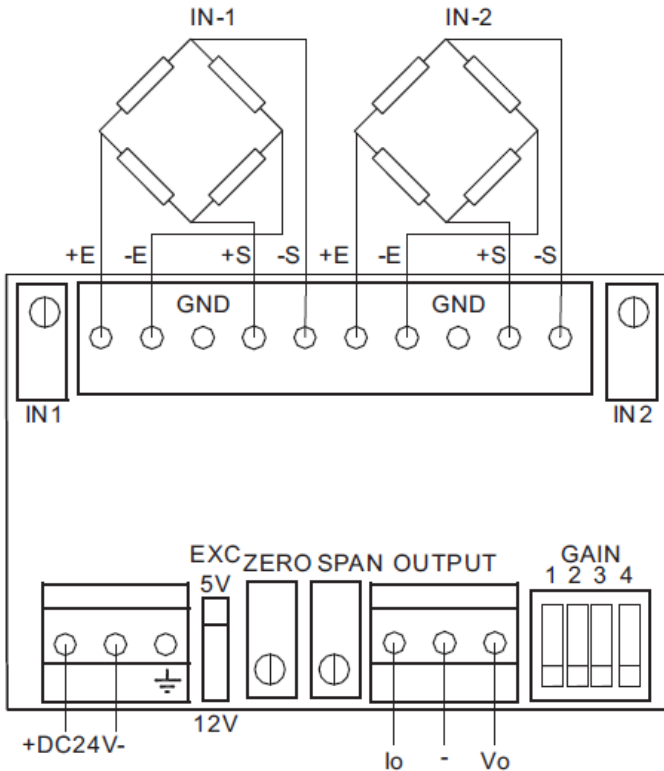

Figure 1.Connection Diagram
As shown in the Figure 1 (Connection Diagram), the left terminal (I_o), outputs positive current and the right terminal (V_o), outputs positive voltage. The middle terminal (-) is the common connection for negative current or negative voltage.
Refer on Figure 1, you may slide the switch for (EXC) from either 5V or 12V. The A2P-D2 amplifier can drive a load cells of either 5V or 12V excitation.
The A2P-D2 is applicable for load cells with different sensitivity. It supports 4 ranges of Gain. The user can select suitable gain for different load cell sensitivity, excitation voltage and output signal by setting the 4-bit DIP switch, by adjusting the Zero and Span potentiometer and by configuring the slide switch (EXC), respectively (refer on Figure 1).
2. If Current Signal Output is required, set the output current to 4.00mA by adjusting the ZERO potentiometer (refer to Figure 1).
3. If Voltage Signal Output is required, set the output voltage to 0.00V by adjusting the ZERO potentiometer (refer to Figure 1).
2. If Current Signal Output is required, set the output current to 20.00mA (for 100% of max. capacity load) by adjusting the SPAN potentiometer (refer to Figure 1)
3. If Voltage Signal Output is required, set the output voltage to 10.00V (-10.00V) for 100% of max. capacity load or 5.00V (-5.00V) by adjusting the SPAN potentiometer (refer to Figure 1).